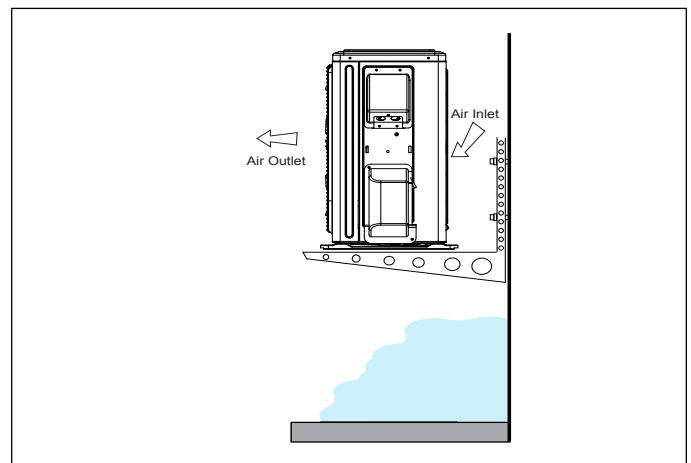

Figure 16. Outdoor Unit on Brackets above Snow Line
- The unit base should be elevated above the depth of average snows as illustrated in "Figure 16. Outdoor Unit on Brackets above Snow Line"